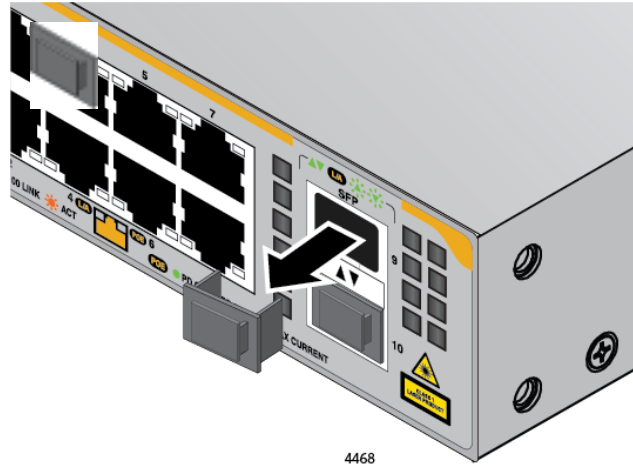

Figure 21. Remove Dust Plug From SFP Slot
1. Remove the dust plug from an SFP slot. Refer to Figure 21.